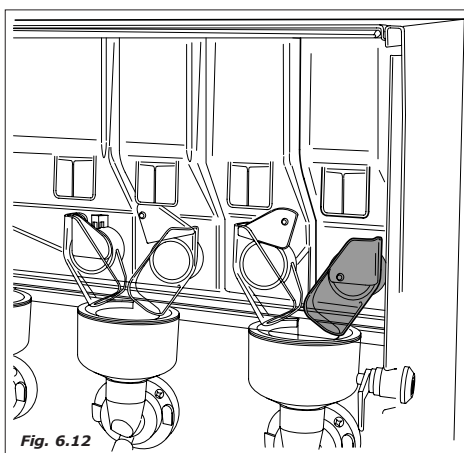

Fig. 6.12
- at the end of the water filling (Fig.6.12), effect a cleaning cycle of the mixer group so as to fill all the circuits and remove eventual residues from the boiler.